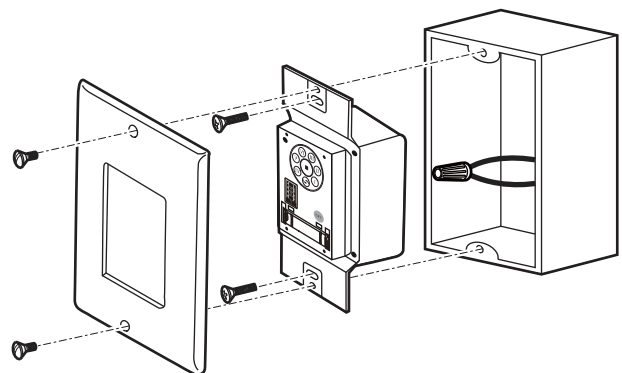

Figure 12
2. Carefully tuck the wire connections inside the outlet box. Secure the wall control with the two wall switch screws provided. (Fig. 12)